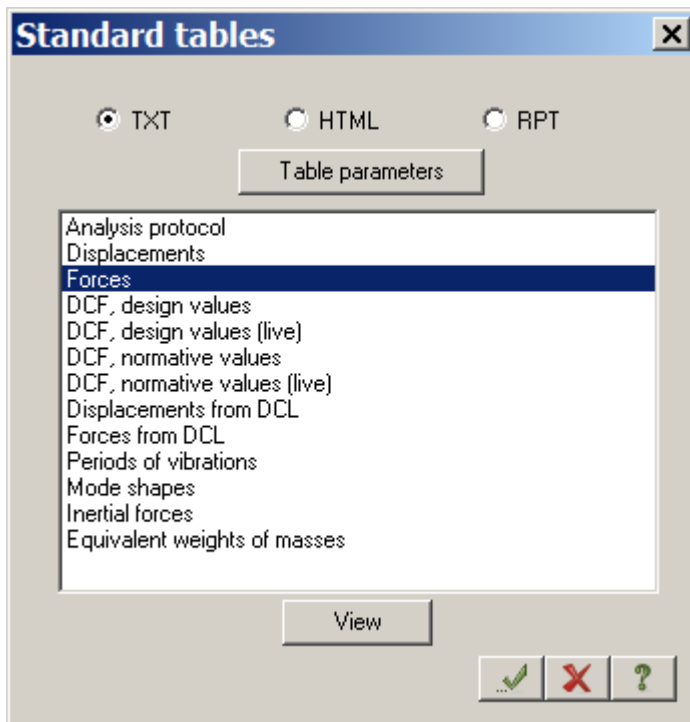

Figure 4.36 **Standard tables** dialog box
- ⇒ In the **Standard tables** dialog box (see Fig.4.36), select **Forces** in the list.